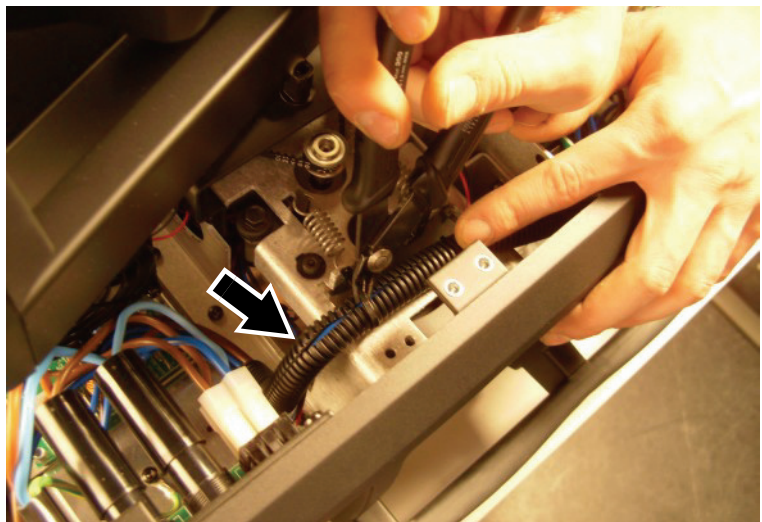

Figure 10
- See Figure 10. Unlock the pan lock and swing the head around for access, then use a wire-cutter to cut the cable ties and release the ballast wiring harness (arrowed) that runs from the ballast to the main PCB.